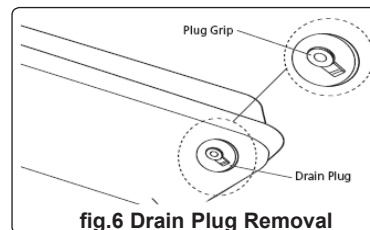

fig.6 Drain Plug Removal
6.2.1 For long term storage the fuel tank will need to be drained. The tank should be flushed every 200 hours of operation or as required. There is a drain plug on the underside of the fuel tank (fig.6). To remove the plug pull down the plug grip and remove the seal head from the drain hole. Drain the fuel into a suitable container. Using a small amount of fresh paraffin, rinse and swirl the paraffin inside the tank and then drain fully.